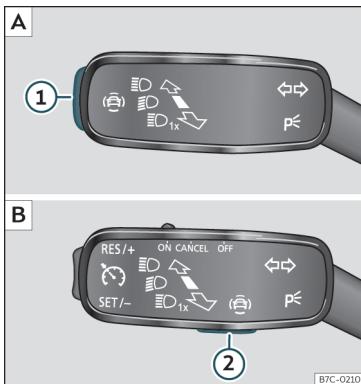

Fig. 106 On the turn light and main beam lever: key for driver assistance systems (depending on the version).
- Press >>> **Fig. 106** ① or ② briefly to open the **Driving aids** menu.